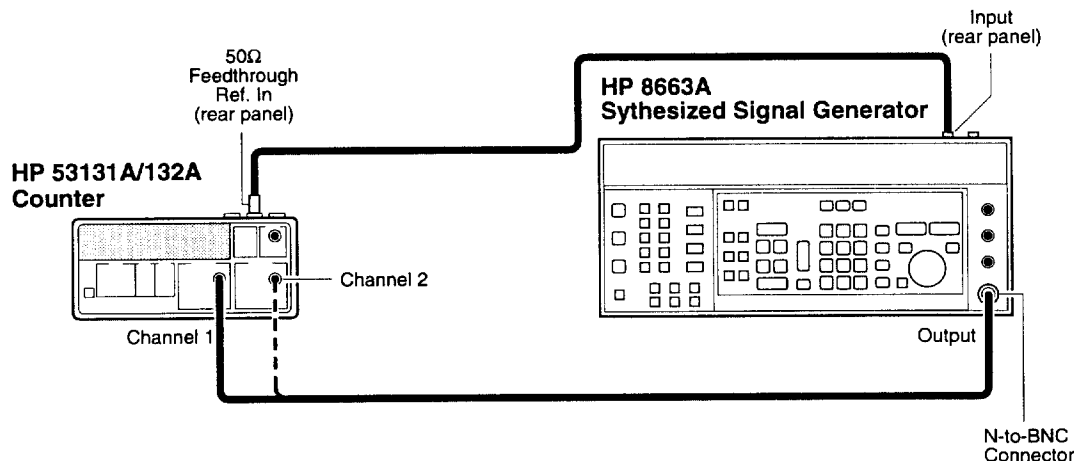

Figure 1-8. Channels 1 and 2 Frequency Accuracy Test Setup
- 1 Connect the equipment as shown in Figure 1-8 with the signal generator connected to Channel 1 of the Counter.**